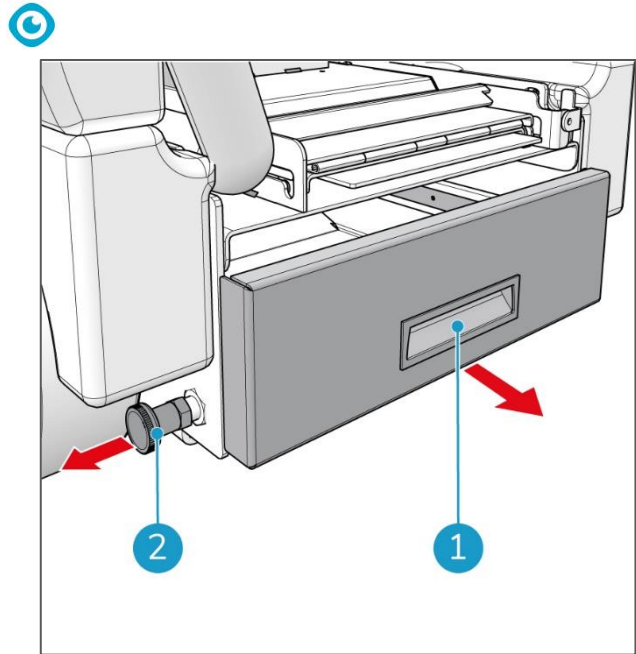

Figure 17
2. Pull out the locking pin on the left side (Figure 17, pos 2) of the battery drawer.
3. Pull out the battery drawer by the black handle (Figure 17, pos 1), until it locks into place.